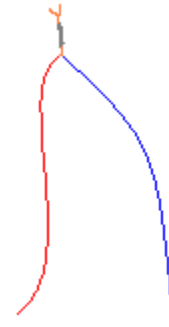

Figure 2
- c. If some bare wire remains above or below the soldered point, that's ok. You will trim the extra from the top later. The soldered twist should be ~ 3 mm. You now have a thermojunction! It should look like Fig 2 below.